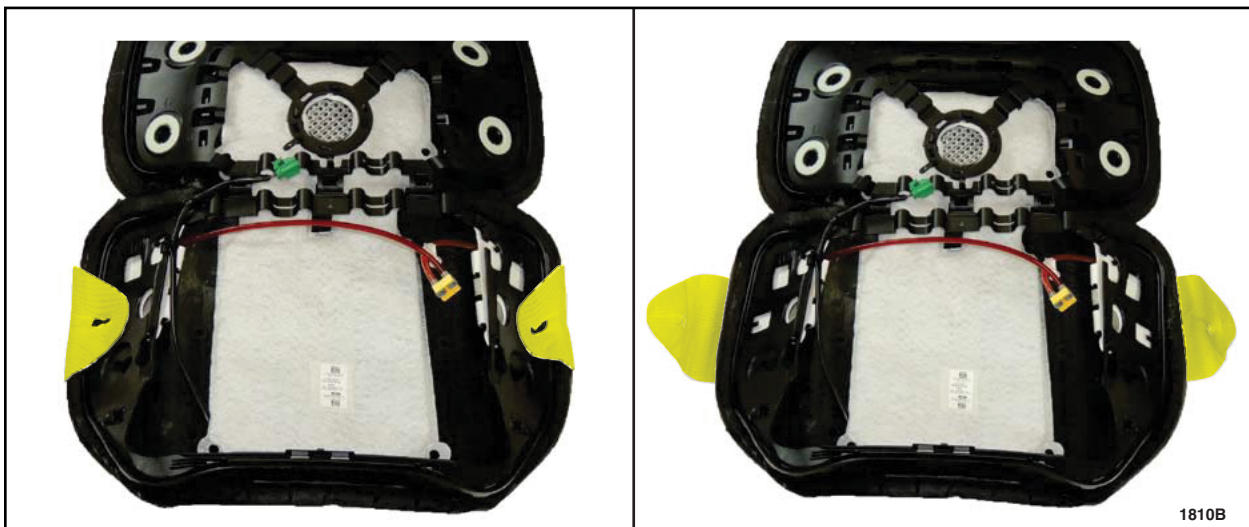

FIGURE 2
3. Release the heater mat fabric wrap around extensions and position aside. See Figure 2.